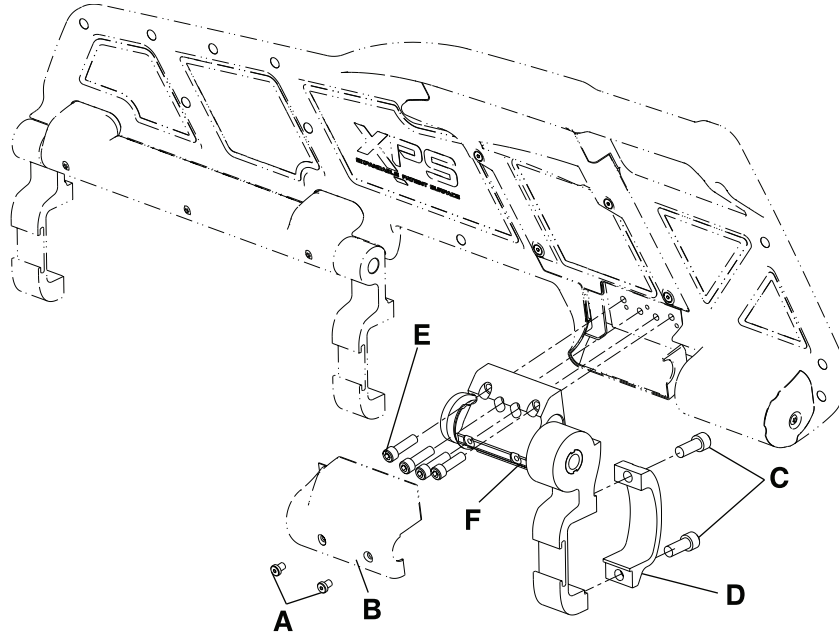

Figure 26: Ratchet assembly replacement (XPS)
- Using a 3/32" hex wrench, remove the two screws (A) that secure the ratchet cover (B) to the ratchet assembly. Remove the cover (Figure 26 on page 59).
- Using a 1/4" hex wrench, remove the socket head cap screws (C) that secure the siderail clamp (D) to the ratchet assembly at the foot end of the main assembly (Figure 26 on page 59). When reinstalling, use a torque wrench to torque both new screws to 22 ± 3.3 ft-lb.
- Using a 3/16" hex wrench, remove the four screws (E) that secure the ratchet assembly (F) to the overmold assembly and discard. Remove the ratchet assembly (Figure 26 on page 58). When reinstalling, use a torque wrench to torque the four new screws to 9.5 ± 1.5 ft-lb.